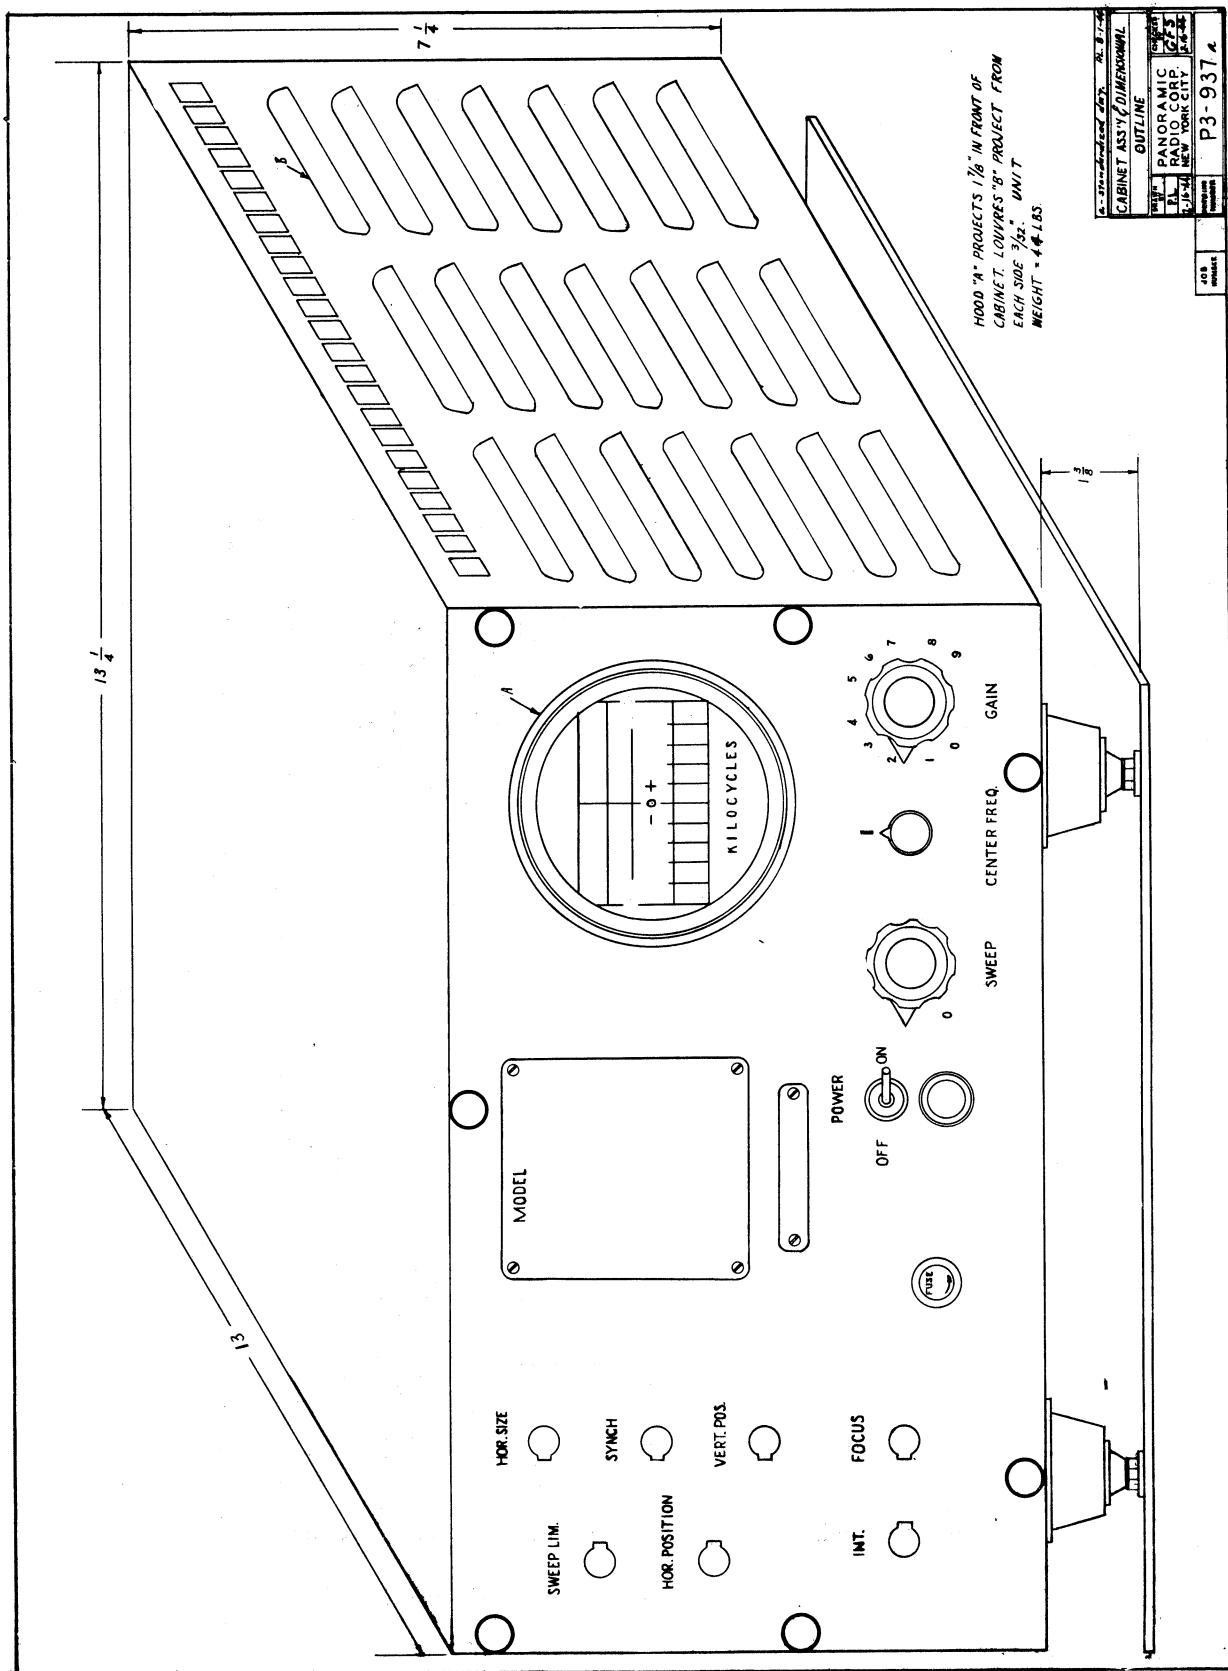

Figure 2-1. - Panoramic Adaptors, Navy Models RBW-2, RCX, RBW-2M, RCX-1, RBU-1, and RBV-1, Cabinet Assembly and Dimensional Outline.
b. See Figs. 2-1 and 2-2 for installation dimensions and weight.
(1) Make sure that the RECEIVER has an intermediate frequency which corresponds to the input frequency of the adaptor.
(2) Disconnect both the adaptor and the receiver from the power line.
(3) Panoramic Adaptors, Navy Models RCX, RCX-1, RBW-2, and RBW-2M are connected to the companion receiver by means of a shielded single co-axial cable. One end of the cable should have a male plug, Navy Type Number 49195, which is fitted into the input female connector (J101) at the rear of the adaptor chassis. If the companion receiver is provided with a connector for operation with the Panoramic Adaptor, the other end of the co-axial cable should be fitted with a suitable plug which is to be inserted into the connector of the receiver. A receiver, which is to be operated with either Navy Model RCX or Navy Model RCX-1, should have a 25,000 ohm resistor between the plate of the first detector and the above mentioned connector. On the other hand, a receiver, which is to be operated with Navy Models RBW-2 and RBW-2M, should have a 50,000 ohm resistor between the plate of the first detector and the connector.